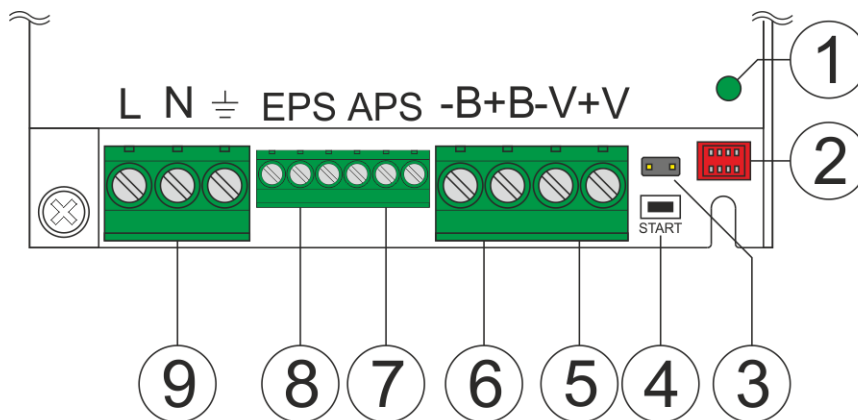

Fig. 2. View of power supply module
Table 2. Elements and connector of PSU (see Fig. 2).
- **cutting off the 230 V current:** LED AC (Fig. 2 level 5), EPS technical output after time 30s